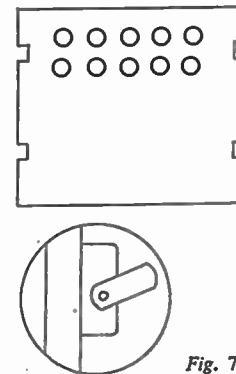

Fig. 7
the battens (R), to bring it flush with (P) and (Q). Note the holes at the top for ventilation, and the cut-outs for the catches (Fig. 7).